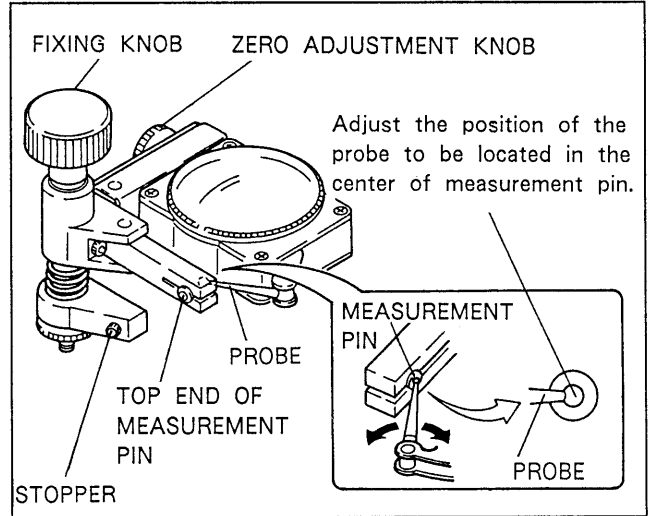

Fig. 6-1-7. Upper Drum Eccentricity Adj. Gauge
- Confirm that the upper drum eccentricity adj. gauge probe is positioned at the center of the measurement pin as shown in Fig. 6-1-7. If the probe is not located in the center of the pin, readjust the probe position with finger.